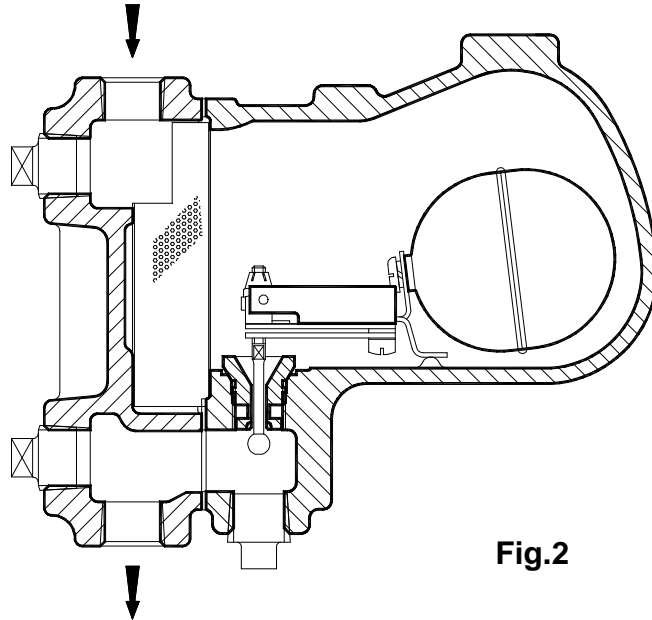

Fig.2
a. Air Venting and Cold Water (Fig .2)